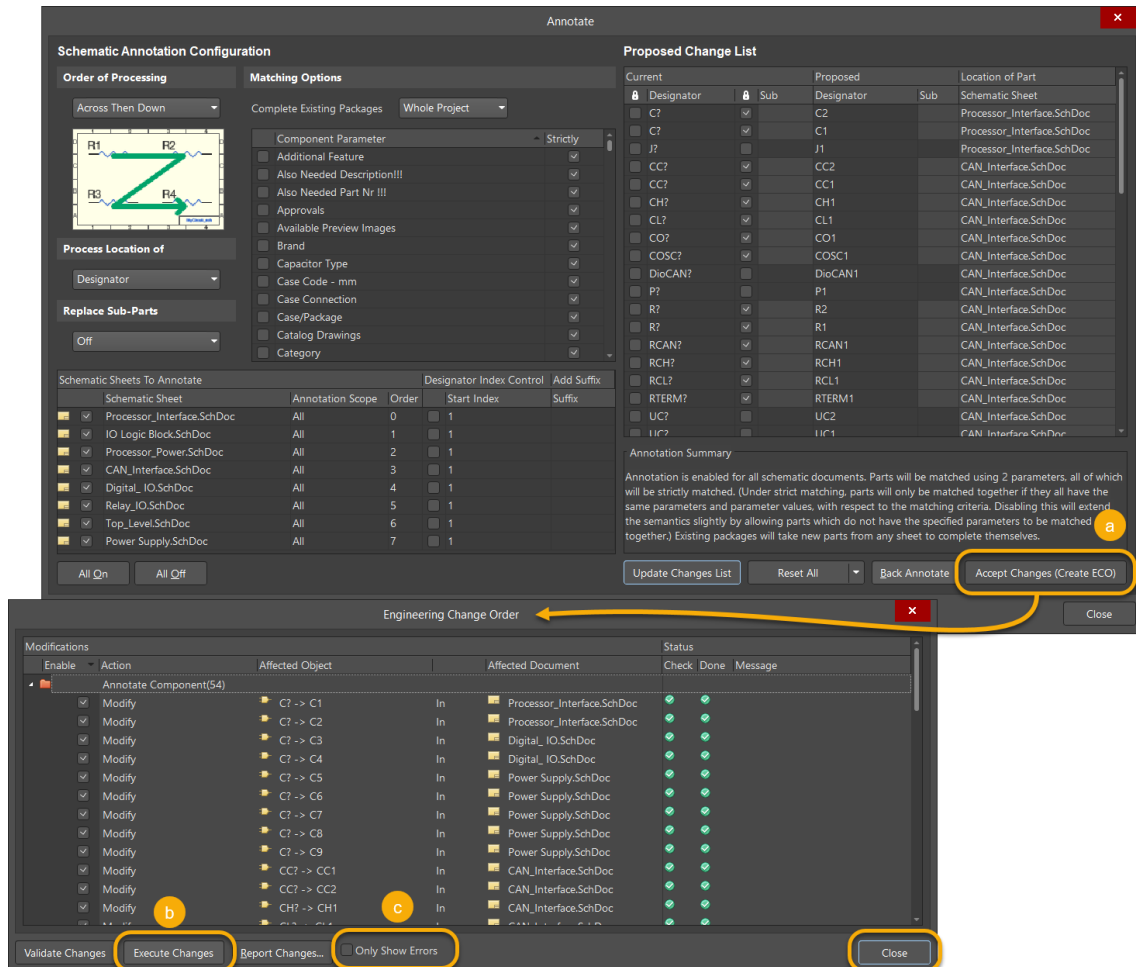

Figure 6. Engineering Change Order for the Annotation of components
- Execute Changes** within the resulting *Engineering Change Order as shown in* Figure 6. All undesignated parts should now have a unique designator.